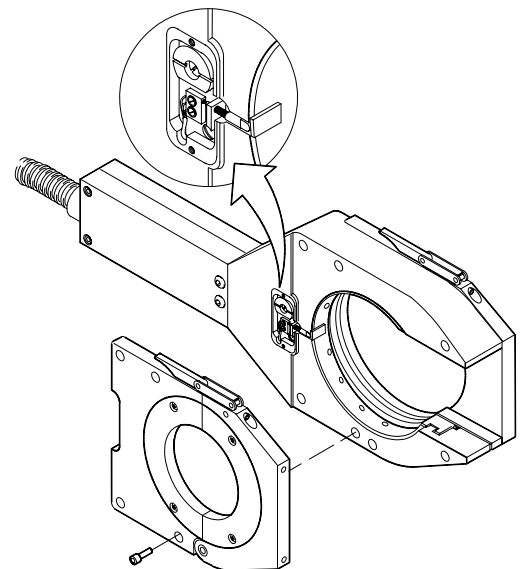

Figure 20 Replacing the Actuator
1. Remove the right fixture side plate. See Figure 20.